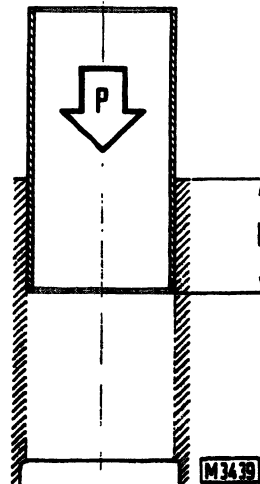

Fig. 8 - Installing cylinder sleeves in the block.
- after driving in the sleeve  $70 \pm 90$  mm ( $2.75 \pm 3.54$  in) check load to be  $\geq 1400$  daN (3146 lb.) (fig. 8);